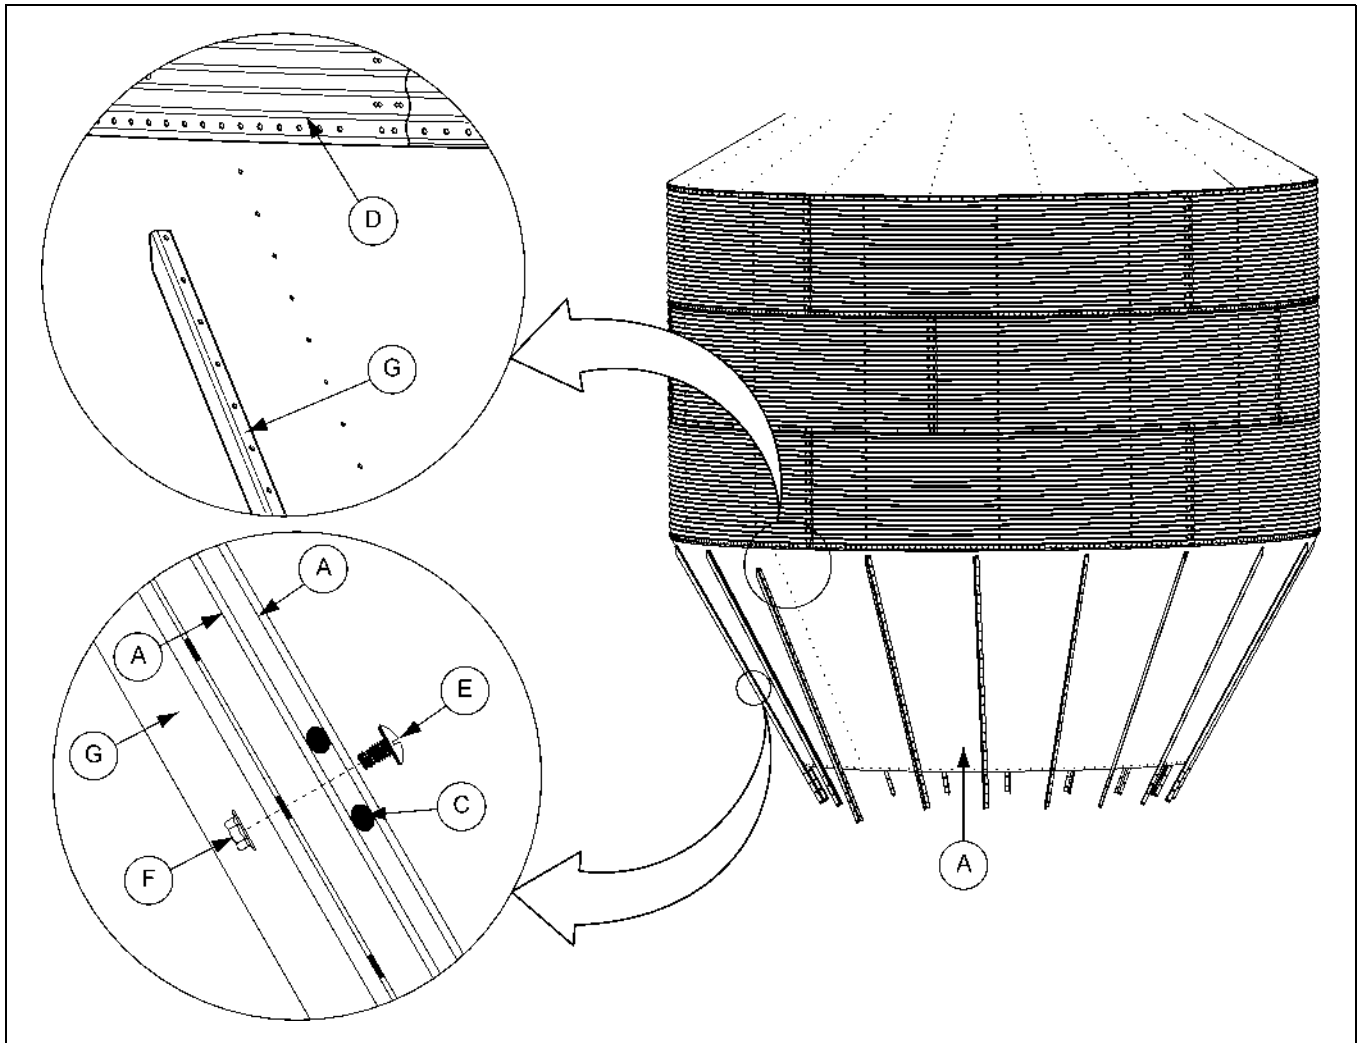

Figure 11D Upper Hopper Panel Connection
2. Install the upper stiffener angle (G) to the outside of the upper hopper panels (A) where the panels overlap.
3. Apply strip caulk (C) between each overlapping seam. (See Figure 11D.)